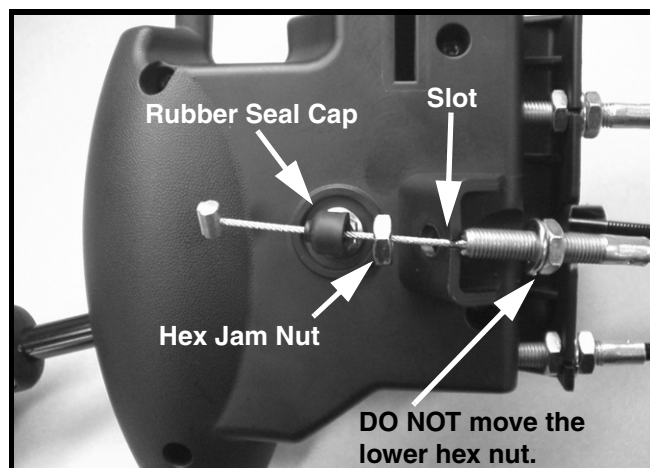

FIGURE 6
16. Remove both chute rotation cables as follows. Refer to Figure 6. Slide the rubber seal cap off from the threaded cable end. Using a 1/2" open end wrench
and pair of pliers, loosen and remove the hex jam nut nearest the end of the threaded ferrule. To retain current cable adjustment, DO NOT move the lower hex nut. See Figure 6.
17. Slide the threaded cable end out of the housing's cable bracket hole and slip the cable out through the slot in the cable bracket. See Figure 6.